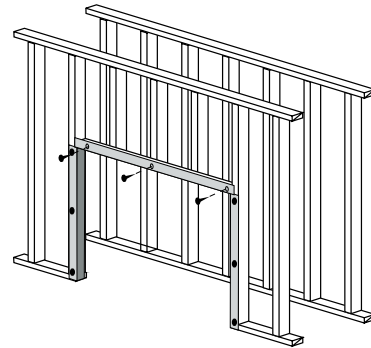

Figure 8b. Combustible Framing Heat Shield, completed.
Step 3. Nail or screw the top shield in place flush with framing, as shown in **figure 8b**.